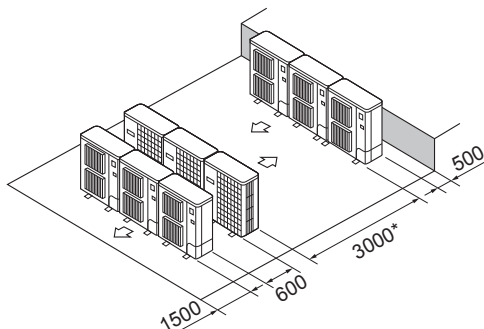

Fig. 5-14
- ⑥ Multiple parallel unit arrangement (Fig. 5-14)